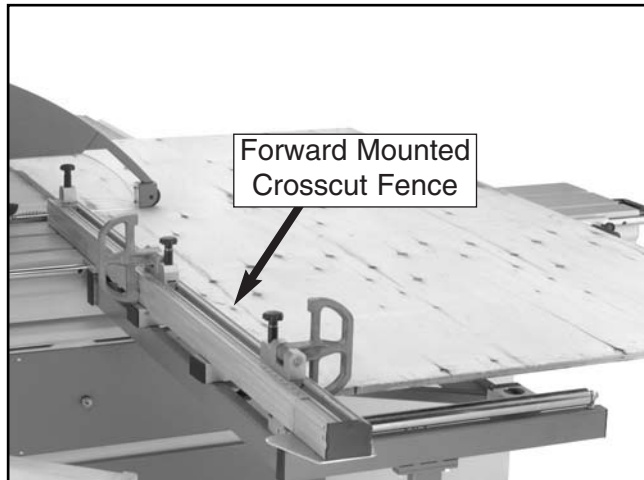

Figure 69. Crosscutting full size panel.
With the crosscut fence mounted in the forward position (**Figure 69**), the Model G0501 has the capability of crosscutting full size panels.
6. Load the workpiece onto the table saw. The set up should look similar to **Figure 69**.
5. Load the workpiece onto the table saw. The set up should look similar to **Figure 69**.